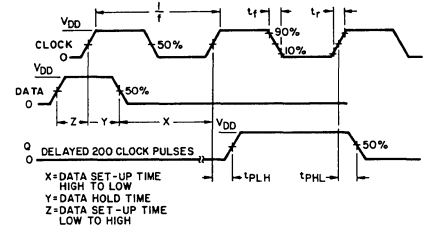

Fig. 3 — Timing diagram—single-phase clock.
**Single-Phase-Clock Operation; Clock Mode (CM) = Low;  $3\text{V} \leq V_{DD} \leq 10\text{V}$  (See Figure 3)**